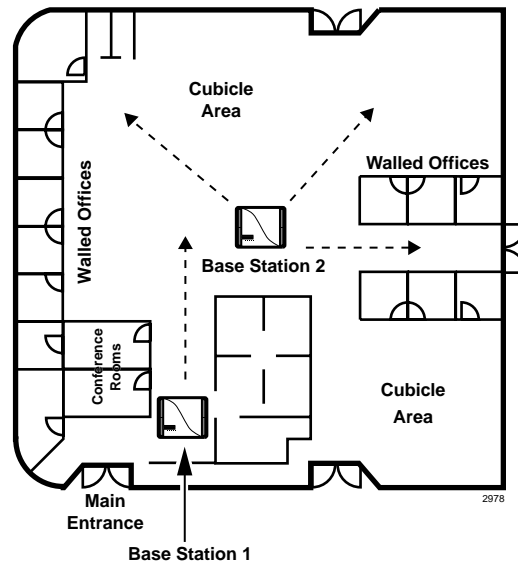

Figure 16-12 Office Area with Cubicles and Walls
- ◆ Cubicles, walled offices, and conference rooms (see Figure 16-12).